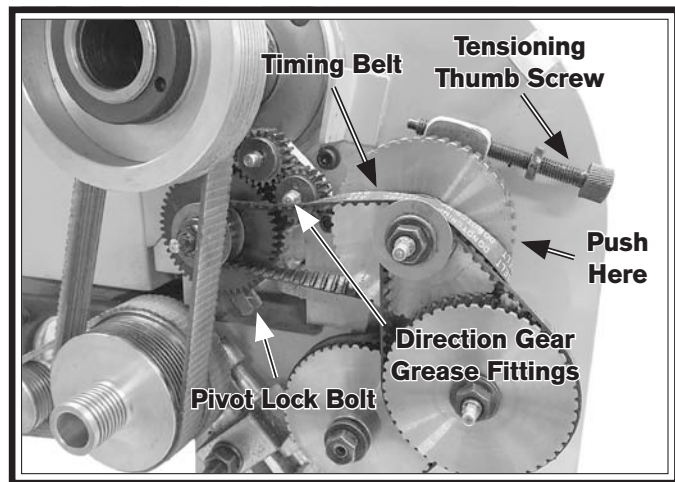

Figure 81. Direction gears positioned for grease fitting access.
2. Back out the tensioning thumb screw (see **Figure 81**) all the way, then push the top large end pulley toward the back of the lathe to release the tension on the attached timing belt.
3. Roll the timing belt off the top large end pulley and rest it on the smaller pulley, as shown in **Figure 81**.
4. Loosen the pivot lock bolt shown in **Figure 81**, then turn the spindle counterclockwise by hand as you apply pressure to the direction gear pivot bracket until both grease fittings are accessible for lubrication.